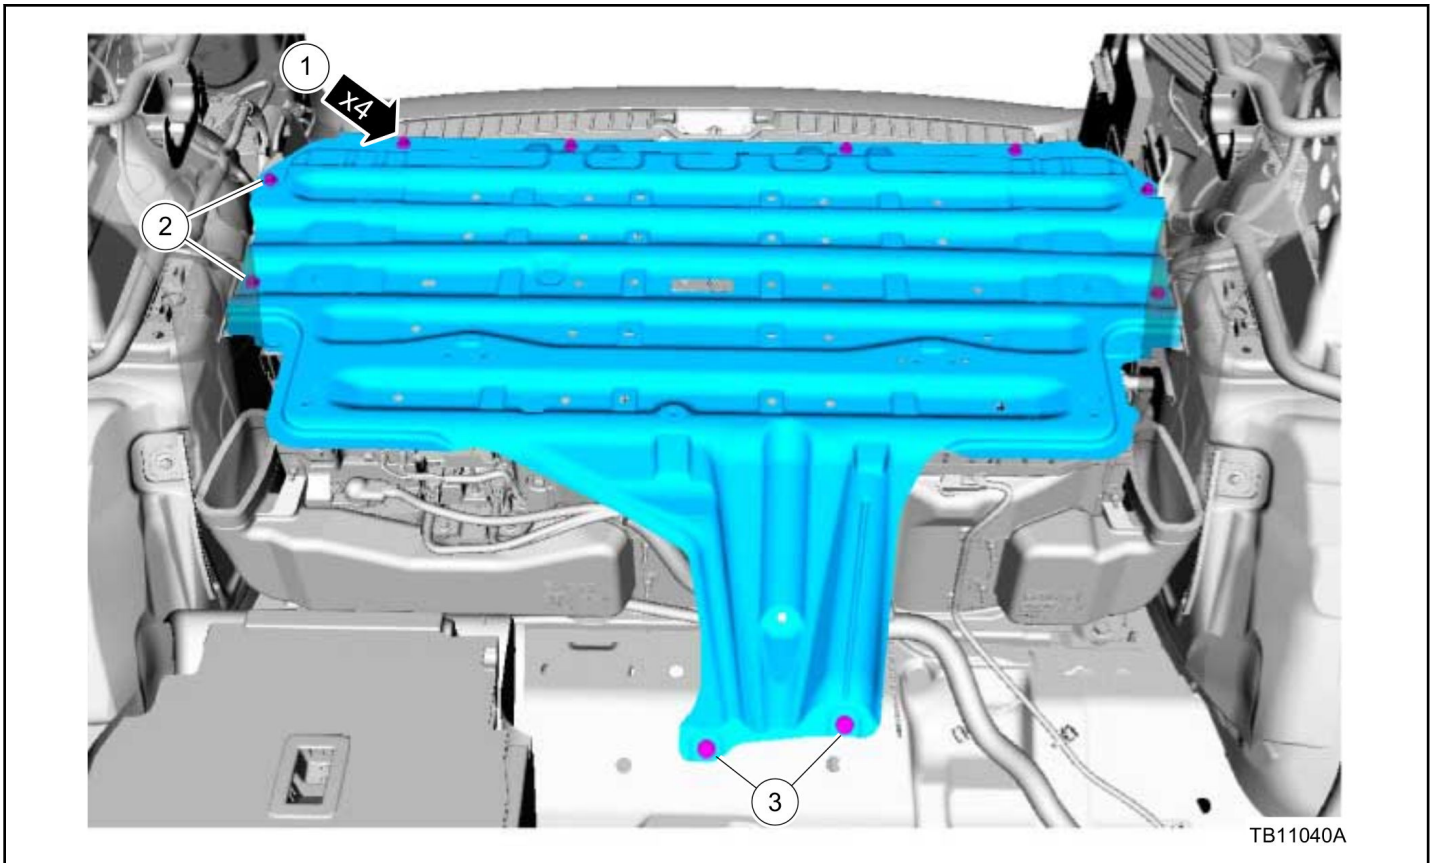

Figure 1 - Article 17-0015
5. Remove the steel reinforcement plate between the seats and battery package. (Figure 1)
- a. Tighten the four 8 mm x 45 mm bolts, torque to 30 Nm (22 lb-ft). (Figure 1 Item 1)
- b. Tighten the four 8 mm x 25 mm bolts, torque to 30 Nm (22 lb-ft). (Figure 1 Item 2)
- c. Tighten the two 10 mm x 20 mm bolts, torque 62 Nm (46 lb-ft). (Figure 1 Item 3)